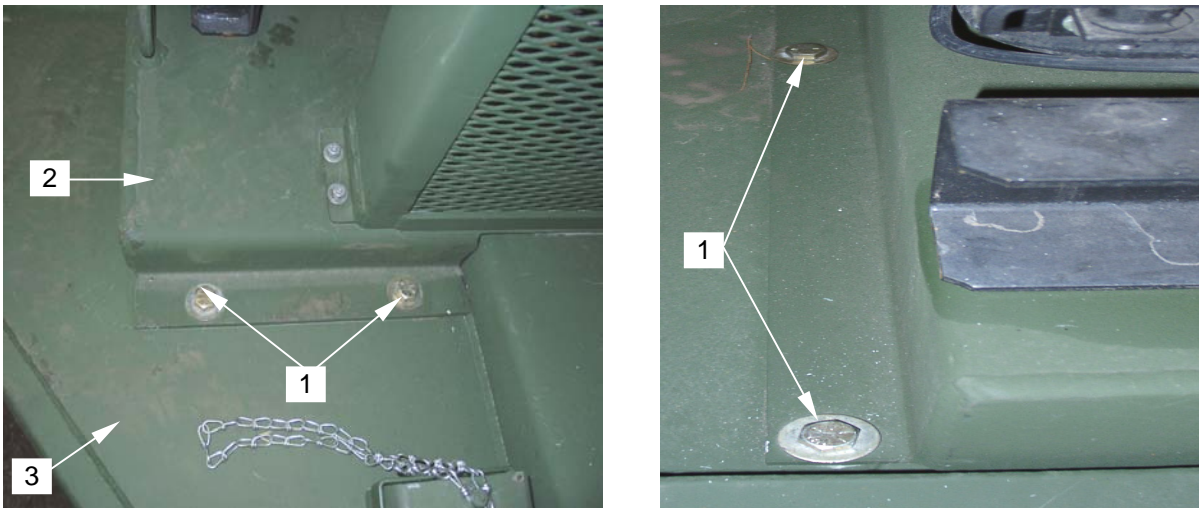

Figure 24. Removing Skid Mounting Bolts
11. Remove seven bolts, nuts and flat washers (**figure 24, item 1**), securing the engine/vacuum pump skid (**figure 24, item 2**) to the trailer frame (**figure 24, item 3**).